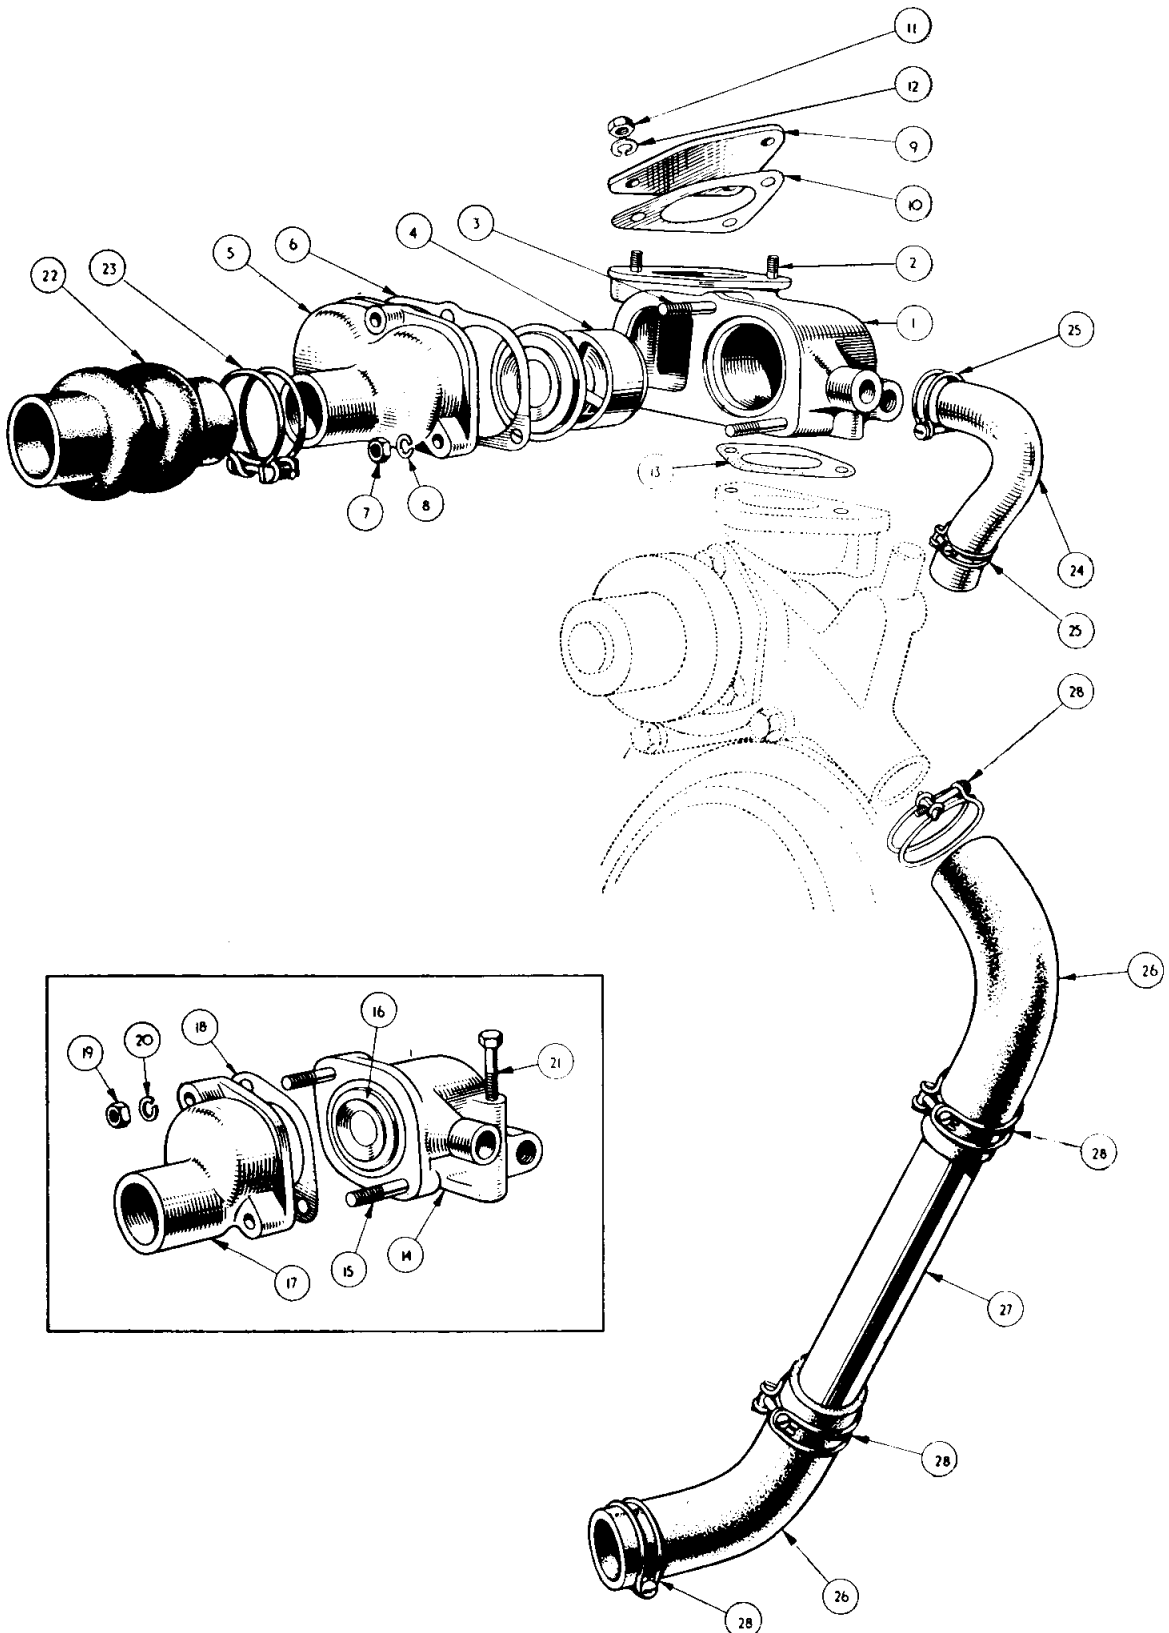

Fig. 5 Exploded details of Thermostat Housings (the housing in the insert is that fitted to current production cars). Cooling System hoses are also shown.
NOTATION FOR FIG. 5
5. TO REMOVE THE THERMOSTAT HOUSING (with thermostat) (Fig. 5)
7. TO REMOVE THE THERMOSTAT ONLY (Fig. 5)
15. FLEXIBLE HOSE CONNECTIONS (Fig. 5)